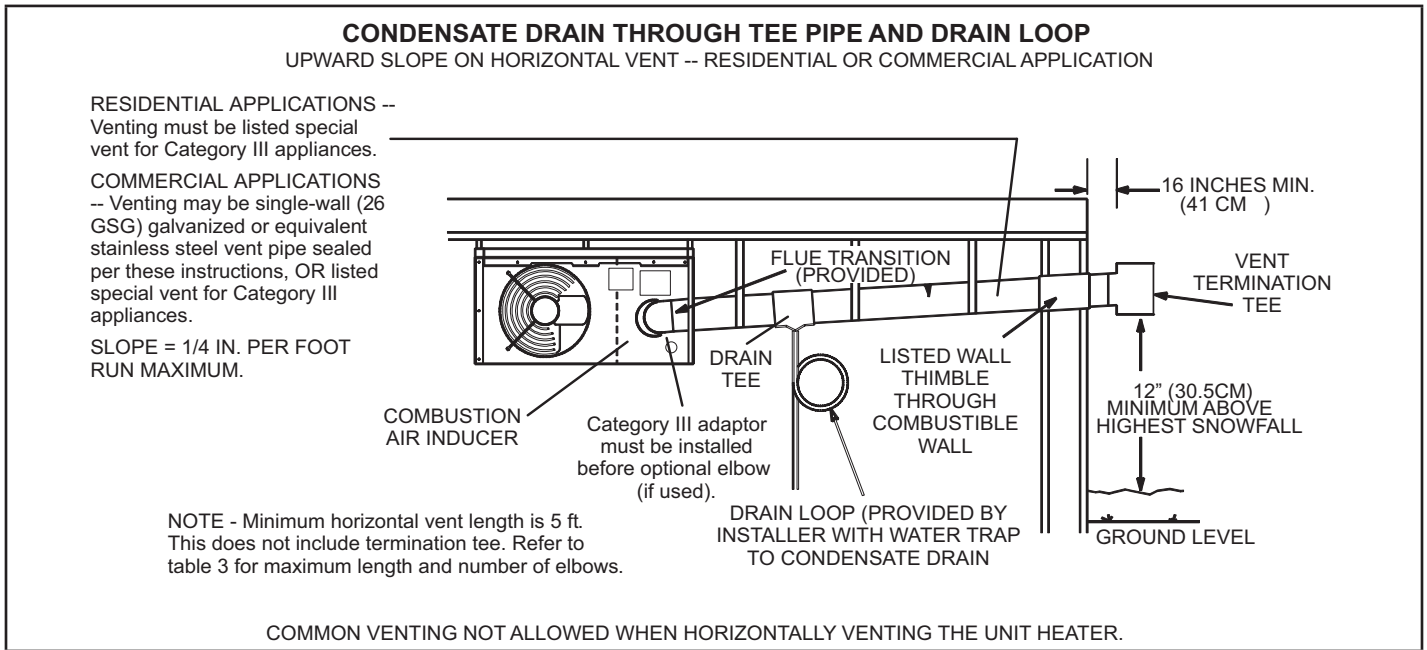
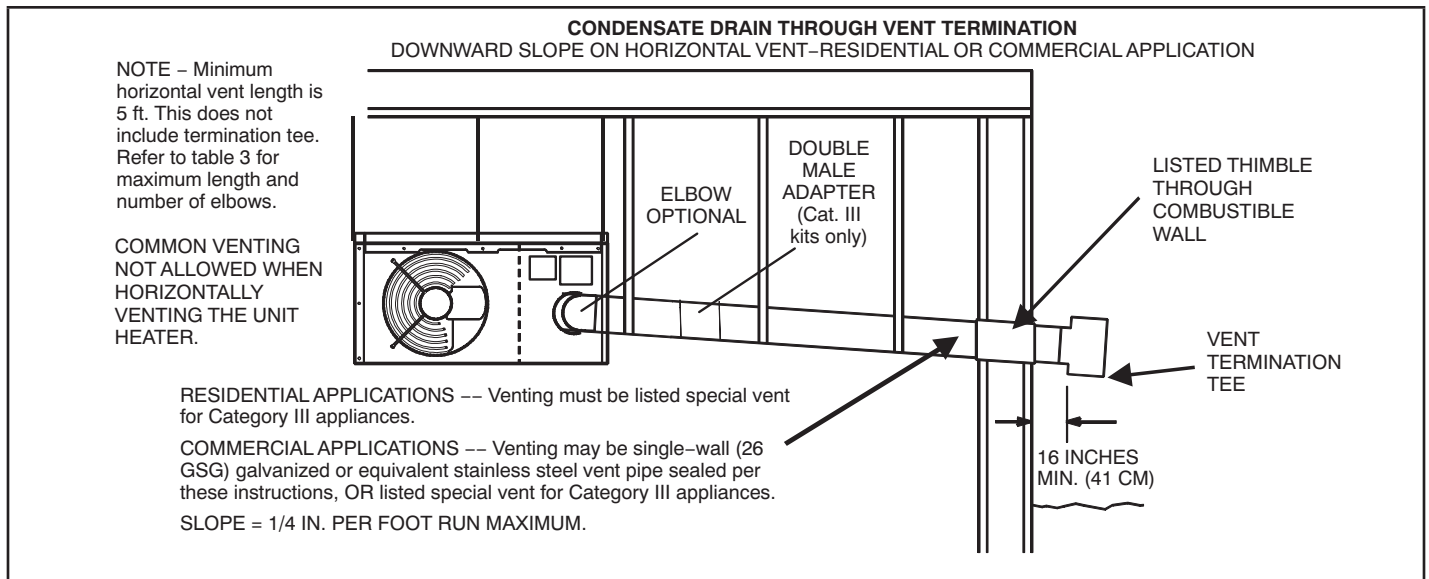

FIGURE 5
FIGURE 7
- 18 - Select a wall termination point that will maintain 1/4" rise per foot slope of horizontal run of vent pipe. In areas where authorities having jurisdiction permit, a downward slope of maximum 1/4" per foot is also acceptable. Condensate drainage can be collected in a tee pipe section (figure 5) with drain loop similar to one used for upward slope vent, or allowed to drip through the vent termination, if permitted by authorities (figure 7).